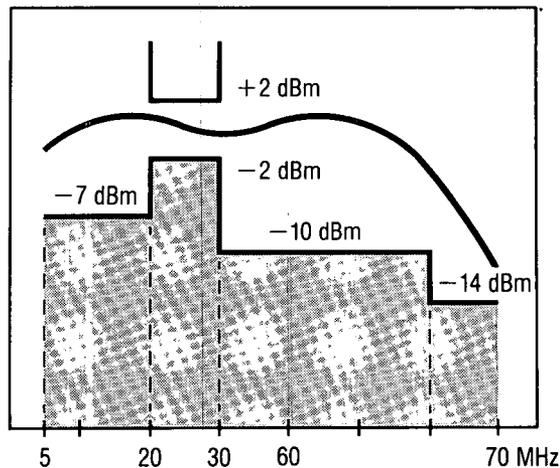

Figure 5-22. IF Frequency Response Limits
16. Slowly tune the sweep generator using the rotary knob while monitoring the display on the spectrum analyzer. (Maximum hold may be used on the spectrum analyzer to trace out the IF response as the frequency is changed.) Verify that the IF frequency response falls within the limits shown in Figure 5-22. If it does not, select new values for A48C22 and A48R22 to adjust the shape of the response (particularly in the 20 to 30 MHz region). Readjust A48R1 IF GAIN control if necessary.